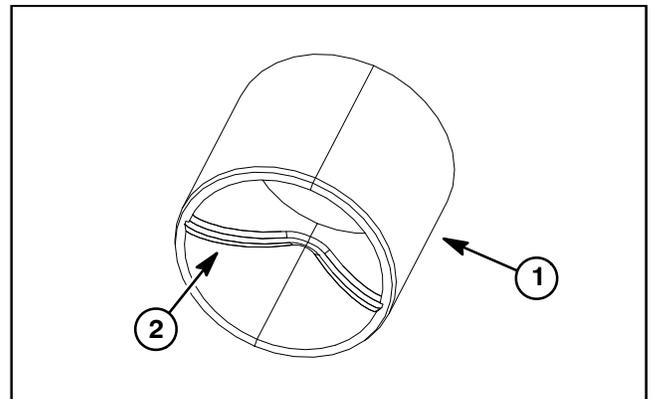
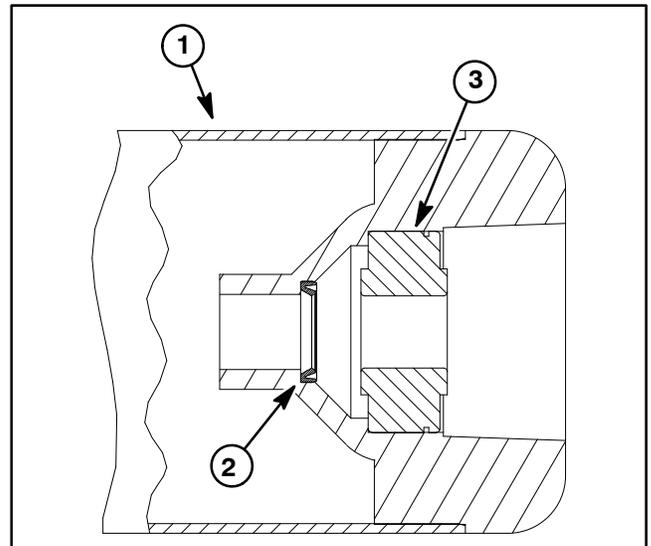

Figure 13
Figure 14
A. If bushings (item 38) in lift arm or pivot hinge are being replaced, install new bushing so that grease groove opening is orientated inward. The bushing with grease groove is shown in Figure 13.
B. If pivot hinge (item 17) was removed, make sure that side play clearance of pivot hinge is less than 0.060" (1.5 mm). Adjust clearance with shims (item 15) and thrust washers (item 16) as required.
C. If roller assembly was disassembled, install oil seal with seal lip toward end of roller (Fig. 14). Also, ball bearing should be installed with seal toward end of roller.